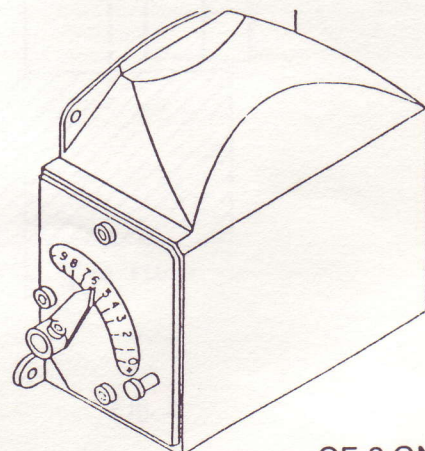

Fig. 6
7.2 Set the air as in Fig. 6 for zero or trace smoke by adjusting the knob and then lock it. (Ref. 13.7)